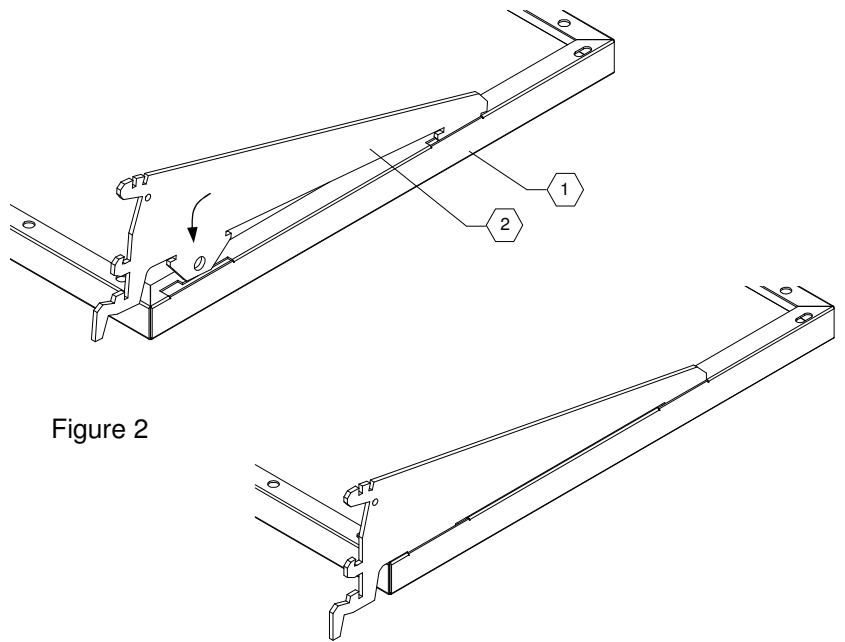

Figure 2
1. Insert mounting brackets (item 2) into slots on bottom of adjustable shelf (item 1) as shown in Figure 2.